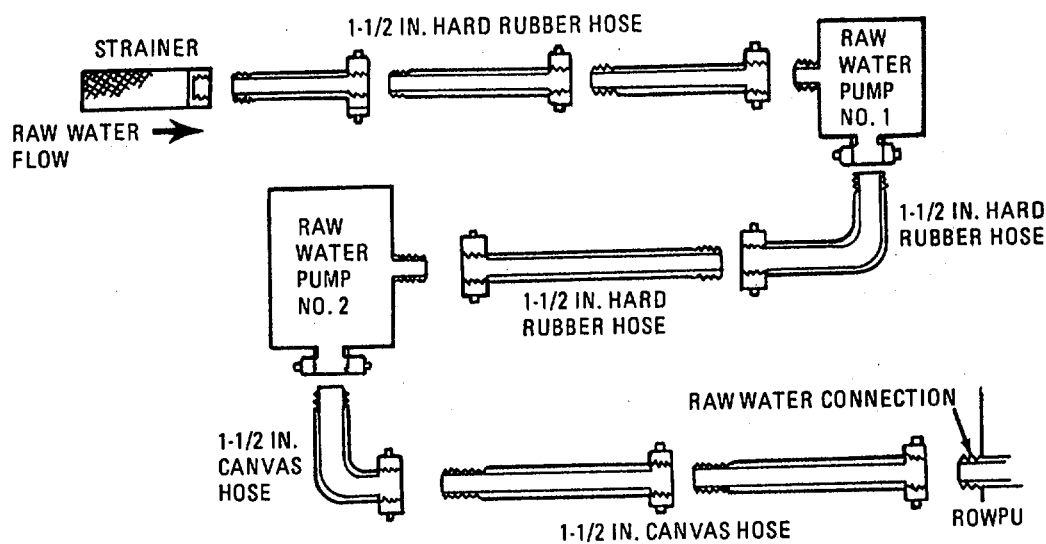

FIGURE 2-29. RAW WATER SYSTEM
(13) Attach float to strainer with enough rope to allow strainer to go under water but not touch bottom. Avoid placing the strainer near sandy areas. Hook up raw water system (figure 2-29). Use only enough hose to reach from the water source to the ROWPU.